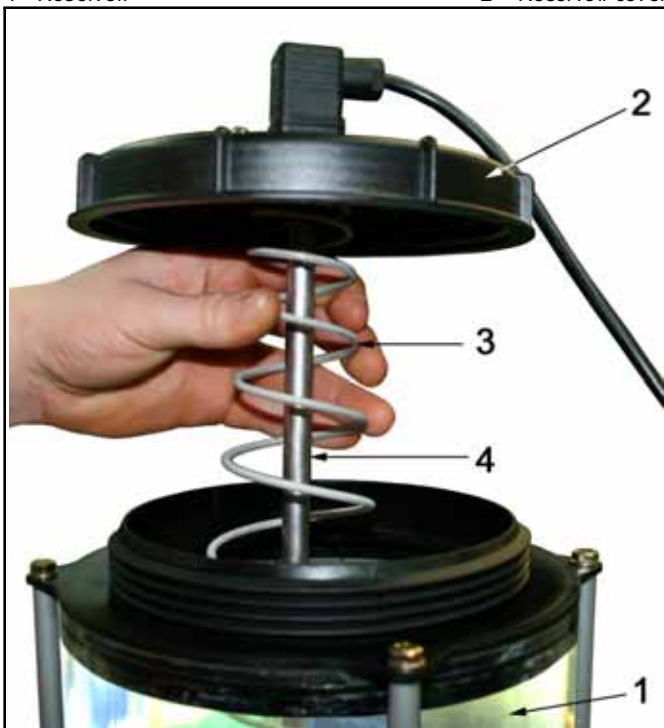

Fig. 2 Assembly:
- ➔ Remove reservoir cover assembly 2 with contact rod 4 and spring 3 (see Fig. 2).